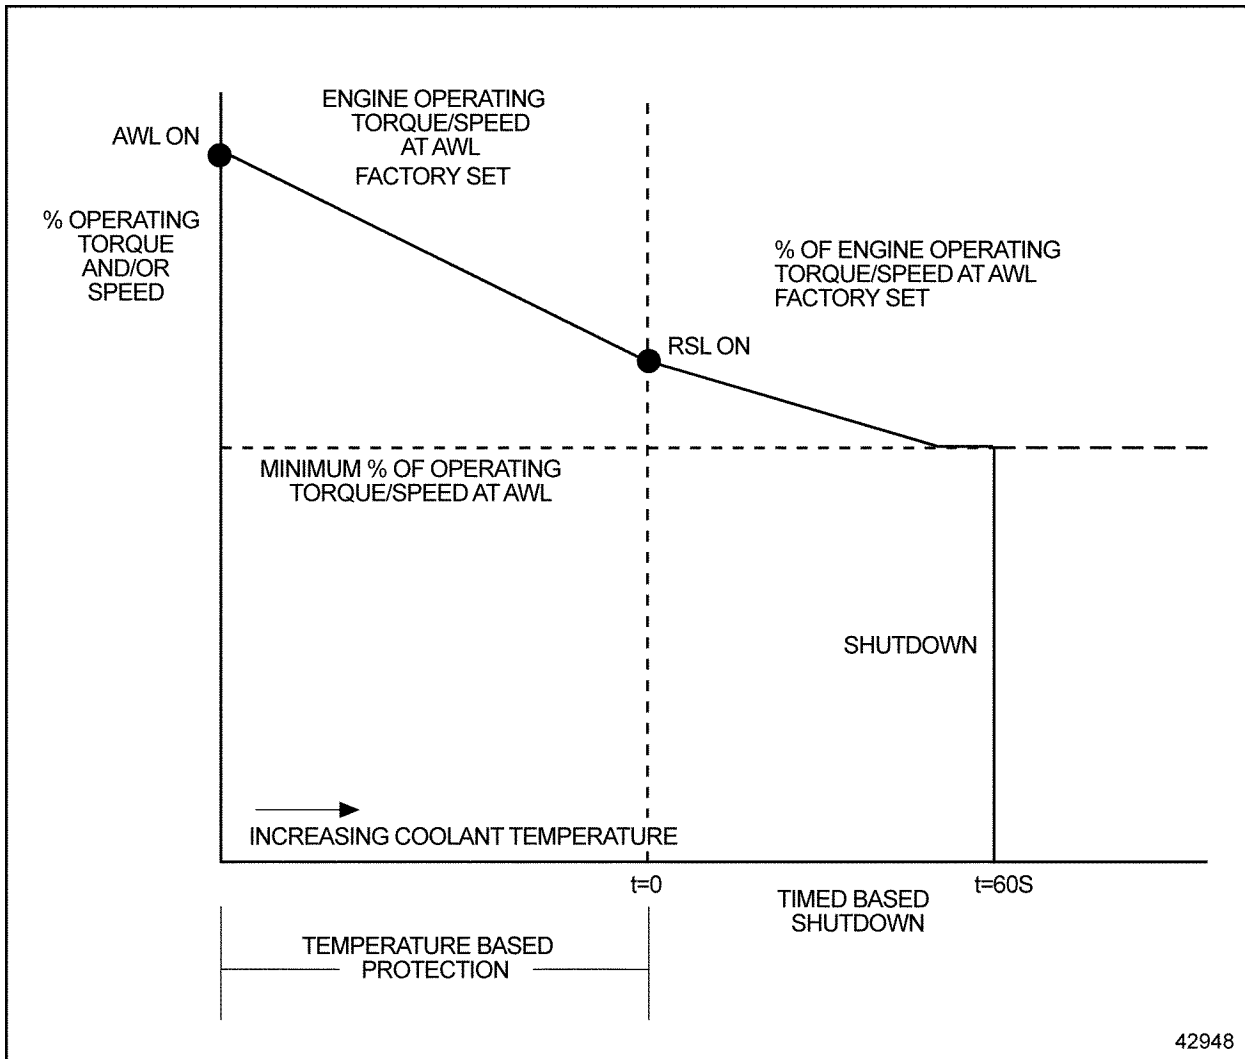

Figure 5-4 Engine Overtemperature Protection and Rampdown/Shutdown
- Rampdown/Shutdown (see Figure 5-4)